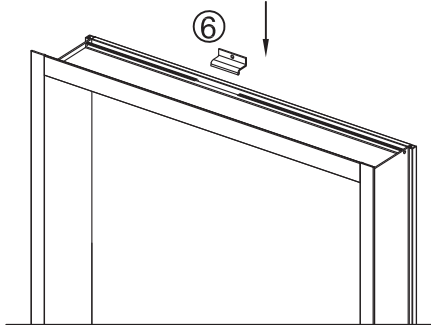

Fig 9
4. Insert surface mount z-clips ⑥ as shown (Fig 9 & 10).